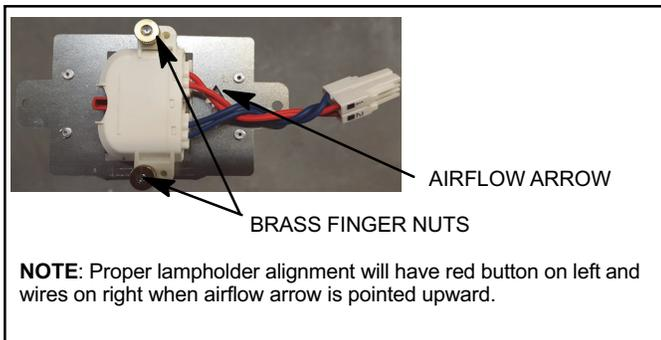

Figure 5. Lampholder Secured to PCO Cartridge
5. Slide the UVA lamp and lampholder into the PCO cartridge. Note: Red button is on top and wires are on bottom when lampholder is in correct orientation (see figure 5).
6. Fasten the lampholder to the PCO cartridge using the kit provided brass finger nuts (see figure 5).